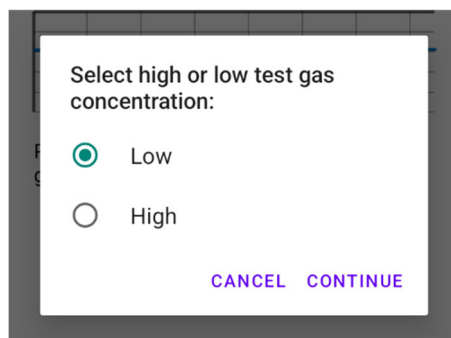
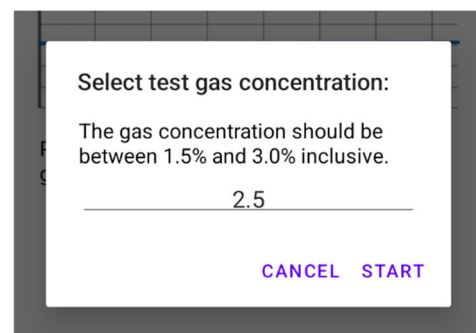

Figure 39 – Select concentration
Figure 40 – Set concentration
4. Press the button  and select the Low or High concentration mode according to the gas mixture selected for the test (Figure 39). 10. Press the "Continue" button, set the concentration of the gas mixture selected for the test, and press "Start" (Figure 40).